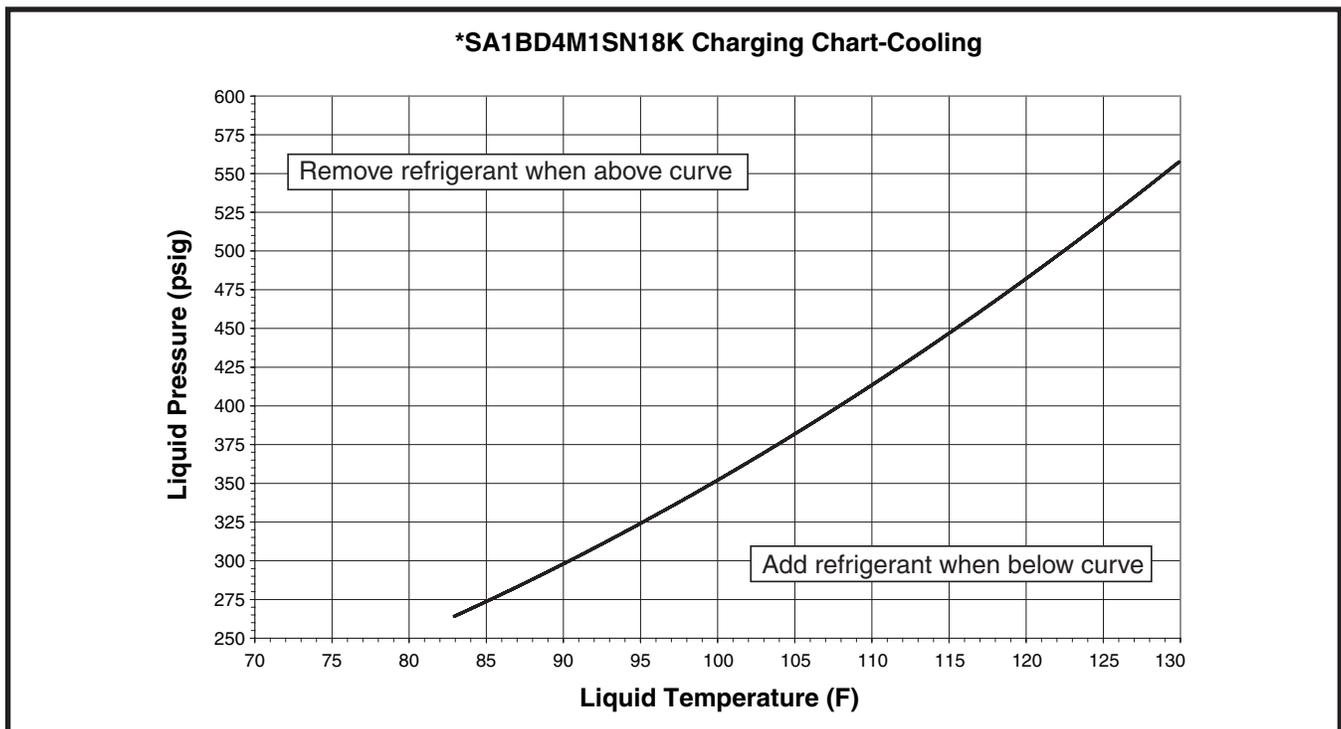
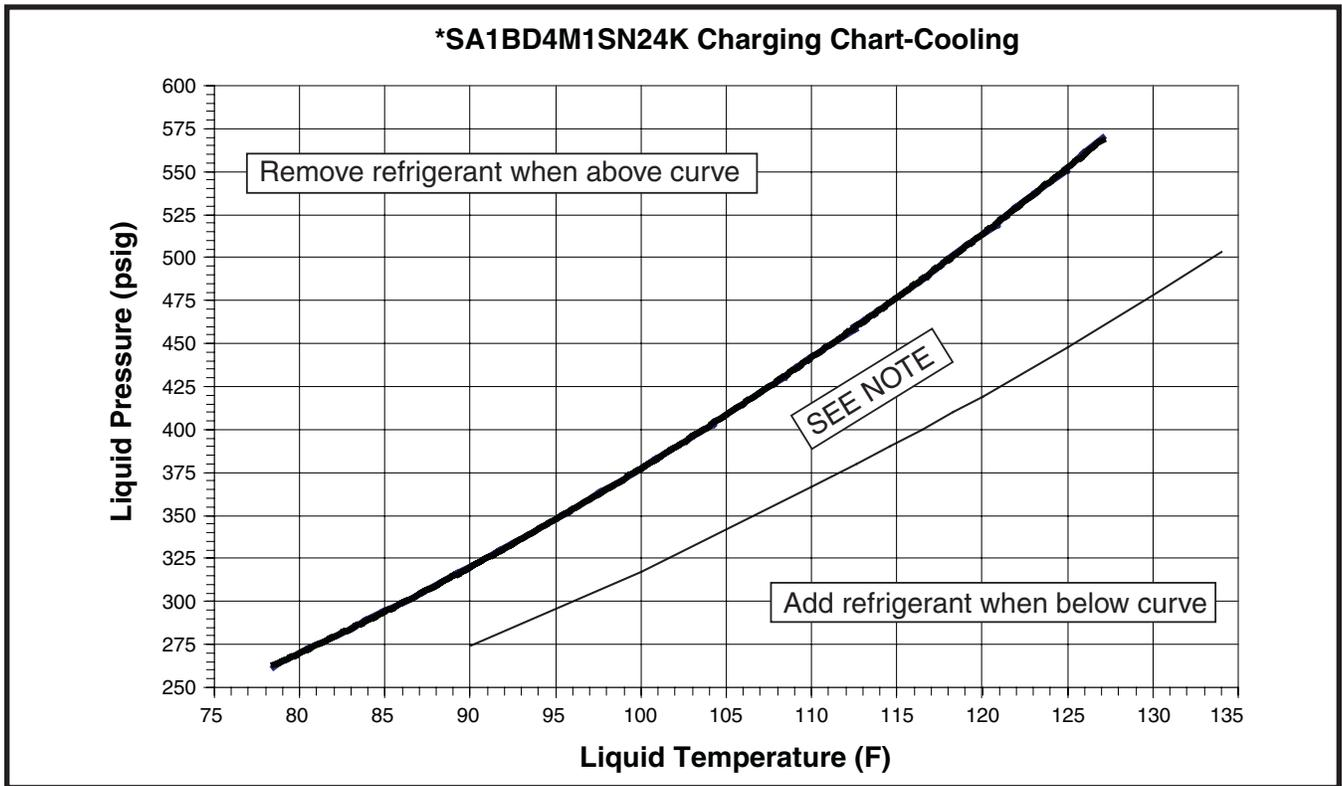
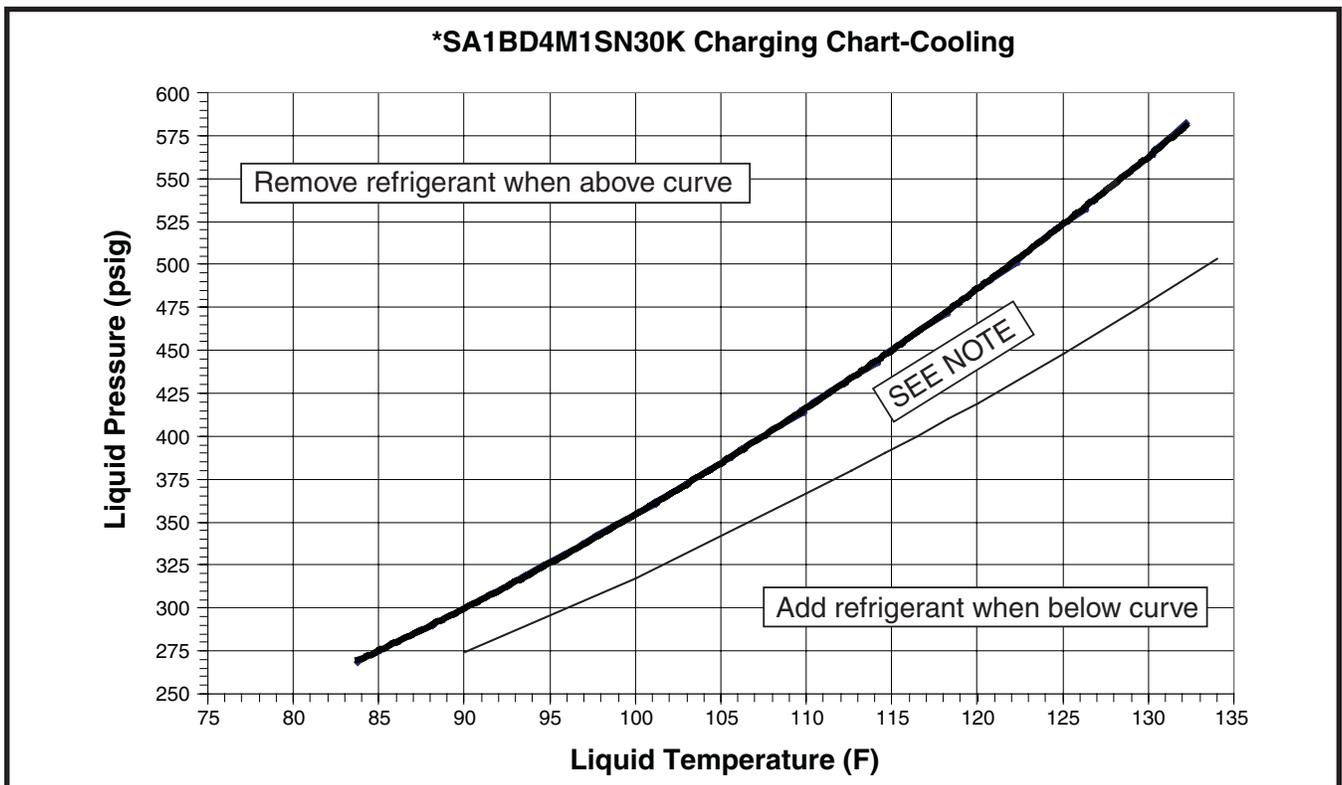
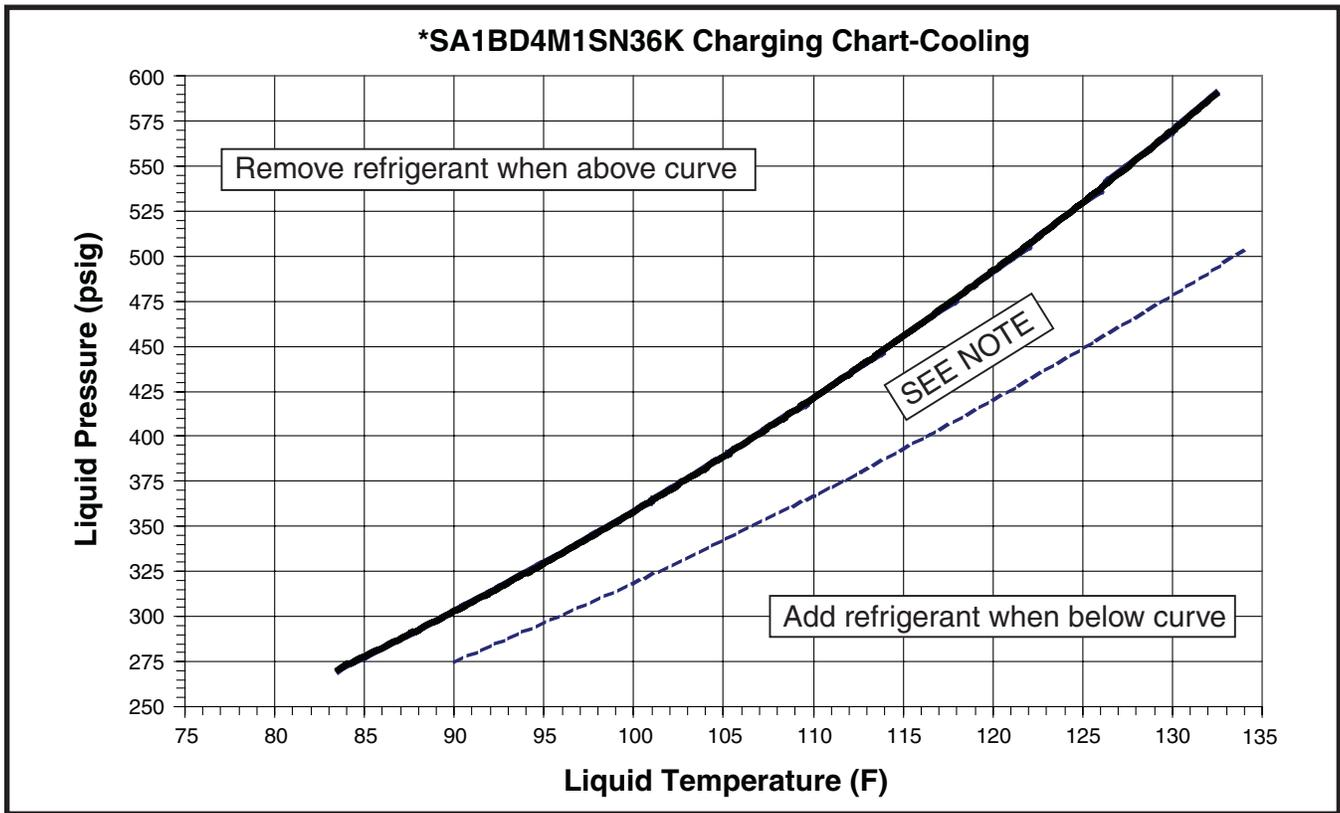

Figure 5. Charging Chart for 1.5 Ton Models
Figure 6. Charging Chart for 2 Ton Models
Figure 7. Charging Chart for 2.5 Ton Models
Figure 8. Charging Chart for 3 Ton Models
- Refrigerant charging charts are applicable only to matched assemblies of NORDYNE equipment and listed airflows for the indoor coil. Refer to Figure 5, page 9, Figure 6, page 10, Figure 7, page 10, Figure 8, page 11 & Figure 9, page 11, Figure 10, page 12, & Figure 11, page 12, and Table 3, page 13, Table 4, page 13, Table 5, page 14, Table 6, page 14, Table 7, page 15, Table 8, page 15, & Table 9, page 16 for correct system charging.
3. Determine the required liquid refrigerant pressure from the appropriate charging chart. See Figure 5, page 9, Figure 6, page 10, Figure 7, page 10, Figure 8, page 11 & Figure 9, page 11, Figure 10, page 12, & Figure 11, page 12.
- Charging charts are valid for a variety of indoor, return air conditions and are most influenced by the outdoor ambient temperature, outdoor fan operation and the unit operating voltage. Before using these charts, make sure the unit is in a stable operating mode. As shown in Figure 5, page 9, Figure 6, page 10, Figure 7, page 10, Figure 8, page 11 & Figure 9, page 11, Figure 10, page 12, & Figure 11, page 12, the ideal system sub-cooling can vary over the range of operation. Reference the charts to determine the ideal amount of sub-cooling for a given liquid pressure. Units charged to other values will not perform at the rated unit efficiency (EER) or rated Coefficient of Performance (COP) in heating mode.